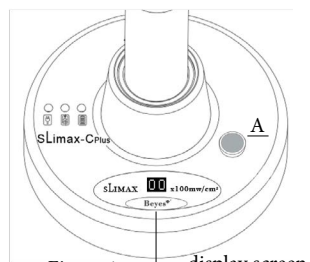

Figure 1
3. Place curing unit with battery into the charger as shown in Figure 1.